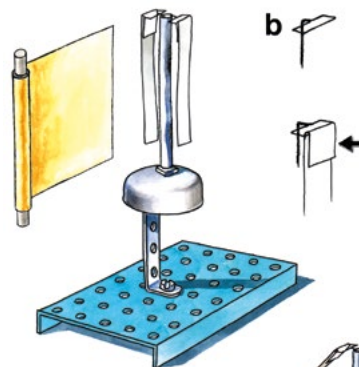

Fig. 23
1. Use a bolt and a nut to fix the big metal bracket 60x12 mm into the centre of a plastic base (9).
2. Further use another bolt and nut to fix an aluminium bell to the free end of the bracket, but leave 10 mm of the bolt protruding from the bell. That is where the 90 mm wrapped tinfoil sleeve is to be stuck to the bolt. How to make the sleeve is described in experiment No. 20. The upper end of the sleeve serves for carrying two bearers made of bare copper wire 0,3 mm. The bearer is a 10 mm long and 5 mm wide rectangle, shaped to permit it to be fixed to the sleeve. The electroscope leaves should be thin paper of 8x70 mm size. They are fixed to the brackets as seen fig. 23 (right). The arrow indicates where the paper is to be stuck together.